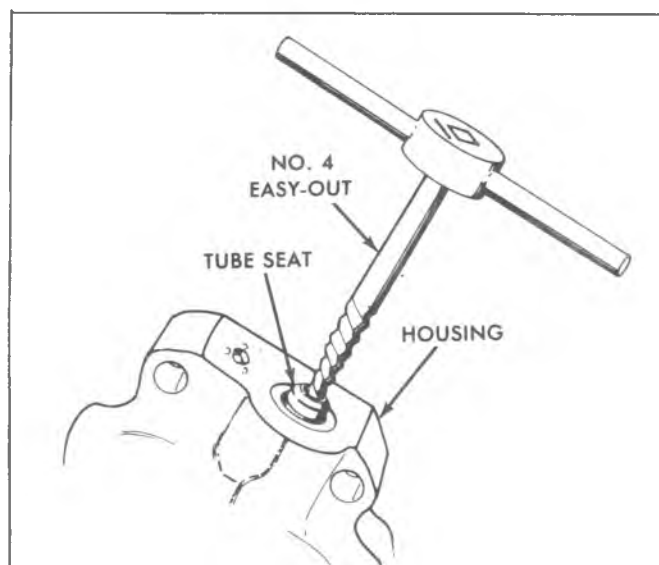

Fig. 5-10E--Removing Tube Seat
19. Remove the tube seats using No. 4 easy-out as shown in Figure 5-10E.